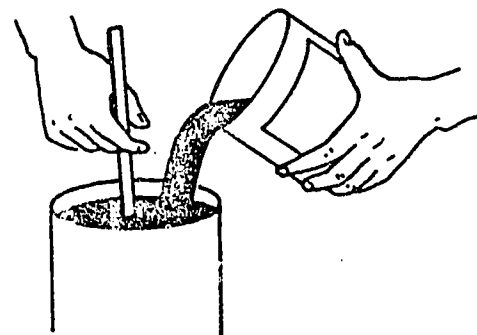

Figure 39. How to box paint.
- (1) Pry open the paint container.
- (2) Pour most of the paint vehicle into a clean and empty container, as shown in figure 39, step A.
- (3) Stir the paint pigment which has settled to the bottom of the container into the remaining paint vehicle, as shown in figure 39, step B.
- (4) While stirring, gradually pour the paint into the paint vehicle originally poured off.
- (5) Stir vigorously and pour the paint from can to can, as shown in figure 39, step C.